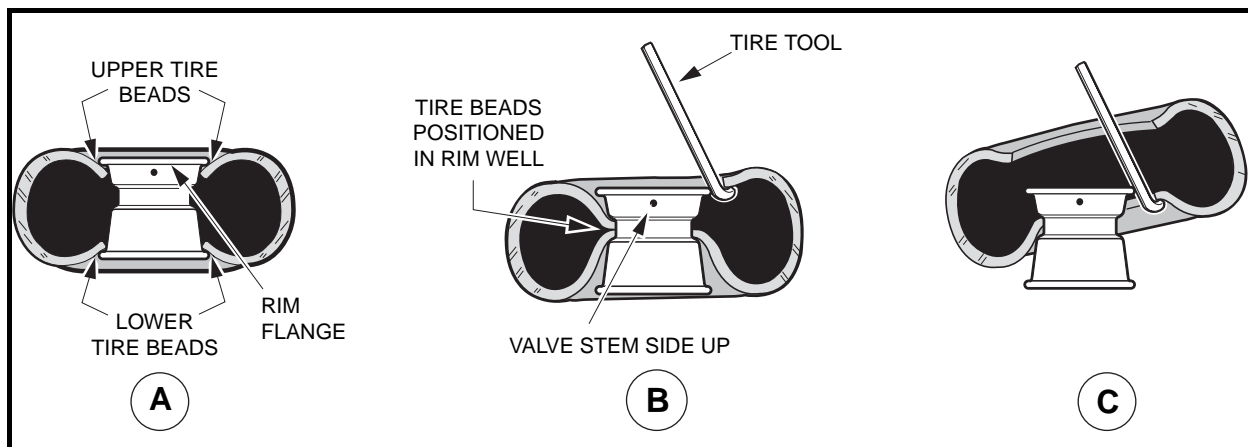

Figure 8-1 Tire Removal
- 3.1. If a tire machine is not available, loosen both tire beads by applying pressure to the tire side walls and pushing the tire bead away from the rim flange and into the rim well (**Figure 8-1, Page 8-2, Detail A**).
- 3.2. With the valve stem side of the wheel up, use a tire tool to carefully start the upper bead over the edge of the wheel rim (**Figure 8-1, Page 8-2, Detail B**).
- 3.3. When top bead is free of the rim, pull the bead from the bottom side of the rim up into the upper part of the rim well. Insert the tire tool under the lower bead as shown (**Figure 8-1, Page 8-2, Detail C**) and carefully pry the lower bead over the rim flange.